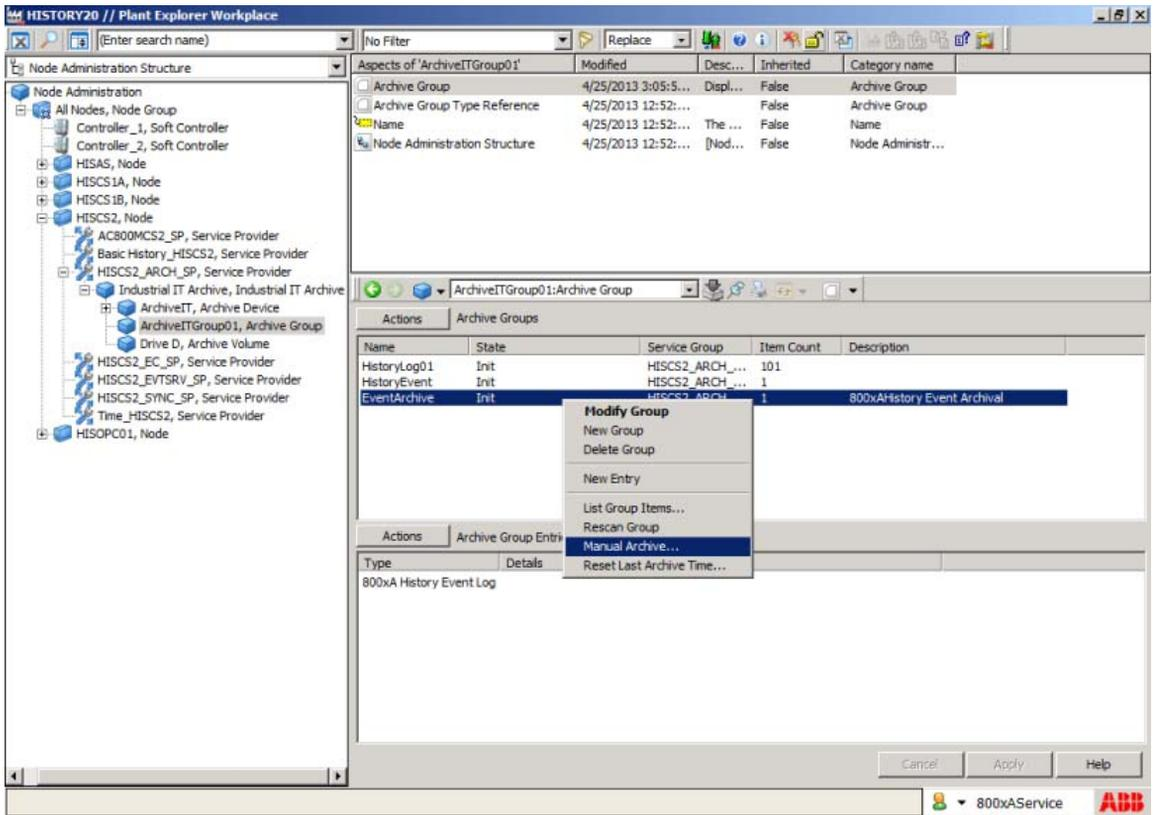

Figure 247. Selecting Manual Archive context menu option
1. After creating a group entry, right-click on archive group and select Manual Archive as shown in Figure 247.